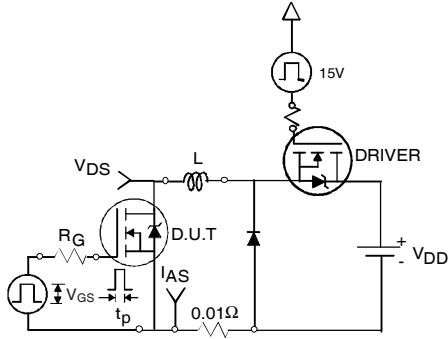

Fig 12a. Unclamped Inductive Test Circuit
- ③ Pulse width $\leq 1.0ms$; duty cycle $\leq 2\%$.
- ④ $C_{oss\ eff.}$ is a fixed capacitance that gives the same charging time as C_{oss} while V_{DS} is rising from 0 to 80% V_{DSS} .
- ⑤ Limited by T_{Jmax} , see Fig.12a, 12b, 15, 16 for typical repetitive avalanche performance.
- ⑥ This value determined from sample failure population. 100% tested to this value in production.
- ⑦ R_{θ} is measured at T_J of approximately 90°C .
3. Equation below based on circuit and waveforms shown in Figures 12a, 12b.